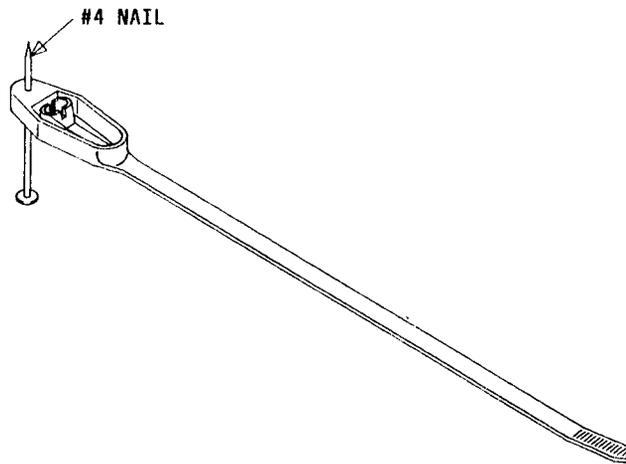

Fig. 1 - B Drive Tie
- 1.03 The B drive tie (Fig. 1) is intended for holding cable or wire on wood surfaces. The B drive tie is a 1-piece black-plastic tie with a number four galvanized flathead nail protruding through a tab at one end. Installation is by driving the nail into a wood surface or a plastic anchor. The B drive tie will hold wire or cable up to 1-1/8 inches in diameter.